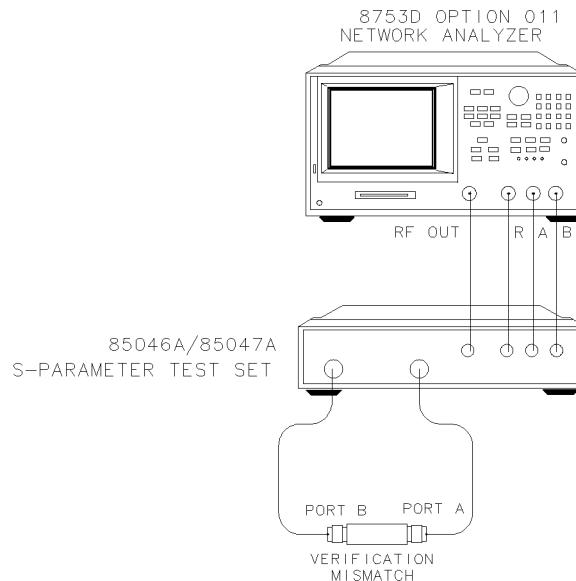

Figure 5-7. Mismatch Device Verification Setup
- 8** When the analyzer finishes all the measurements, reconnect the mismatch verification device, as shown in Figure 5-7.